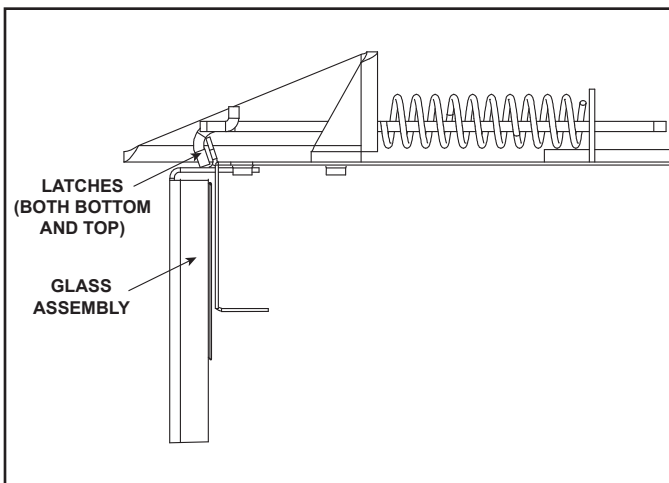

Figure 4.1 Fixed Glass Assembly
- Pull the four glass assembly latches out of the groove on the glass frame. Remove glass assembly from the appliance See Figure 4.1.